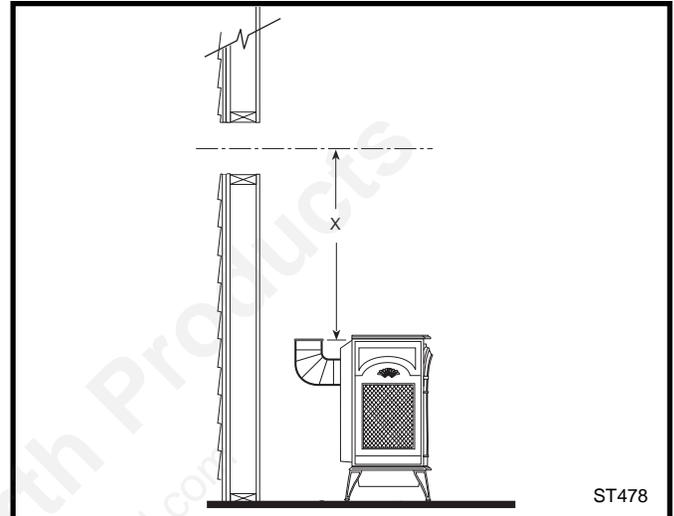

Fig. 33 Determine the vertical pipe length.
4. If necessary, measure to determine the vertical length (X) of pipe required from the first (transition) elbow to the wall cutout centerline, including a 2" overlap at the joint. (Fig. 33) Use a hacksaw or tin snips to trim the pipe as needed.